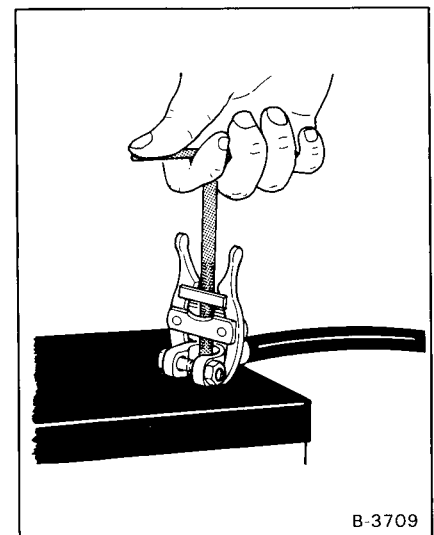

Fig. 1-30 Removing the Cable
(1) Remove the battery cables (negative cable first) (Fig. 1-30). Remember the position of the positive terminal and the negative terminal so you can connect the cables correctly after the new battery is installed.